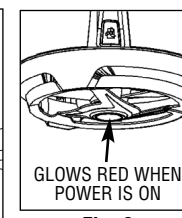

Fig. 9
2. Push the red button on the power pack to turn on main power. The button on the power pack and the red light in center of fan/light unit will glow when main power is “ON”. (Fig. 9)